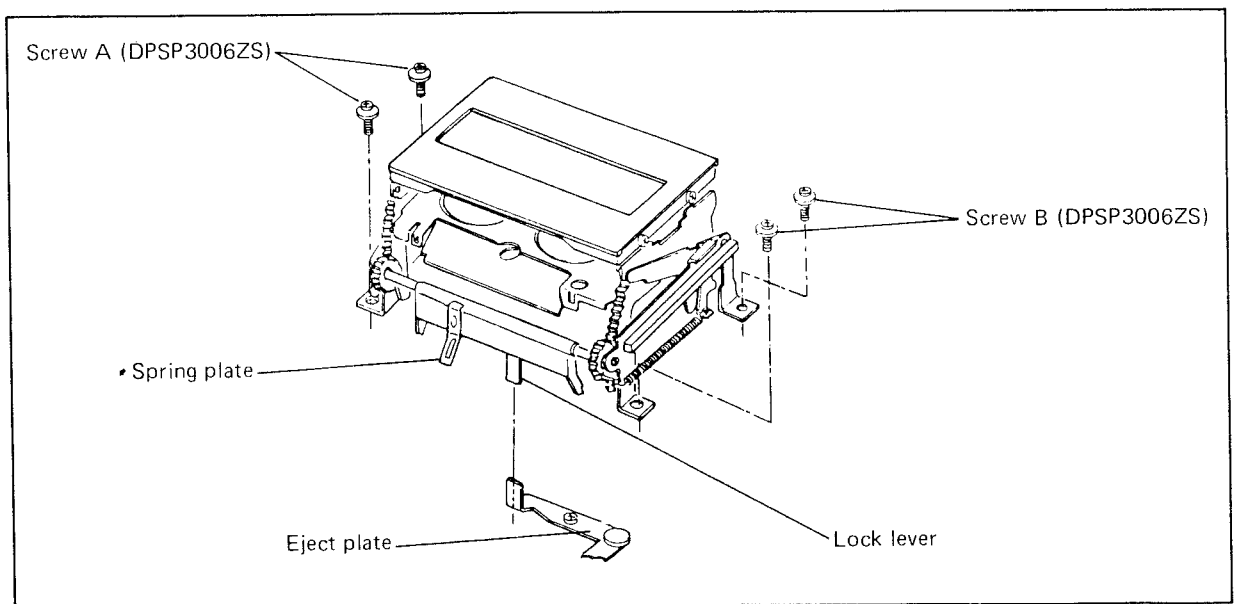

Fig. 5-4 Replacement of cassette housing
1. Remove four screws (A) from both sides of the cassette housing assembly as shown in Fig. 5-4.
1. Place the new cassette housing assembly to the unit. In this time, set the lock lever on the cassette housing assembly between the eject plate and the function assembly as shown in Fig. 5-4. If the lock lever is not in correct position, the eject key will not operate. And also, check that the spring plate touches to the function assembly.
3. Tighten the four screws (A) . (B) . Then push the eject key downward, and remove the jig from the cassette housing.